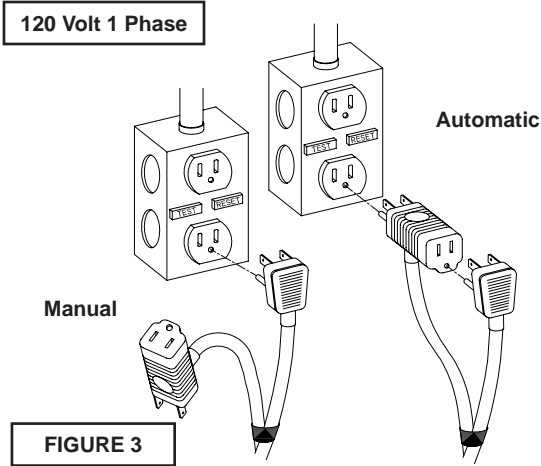

FIGURE 3
- 6.) Figure 3 shows a typical connection for pumps with the wide angle float and piggy-back plug. For manual and automatic operations